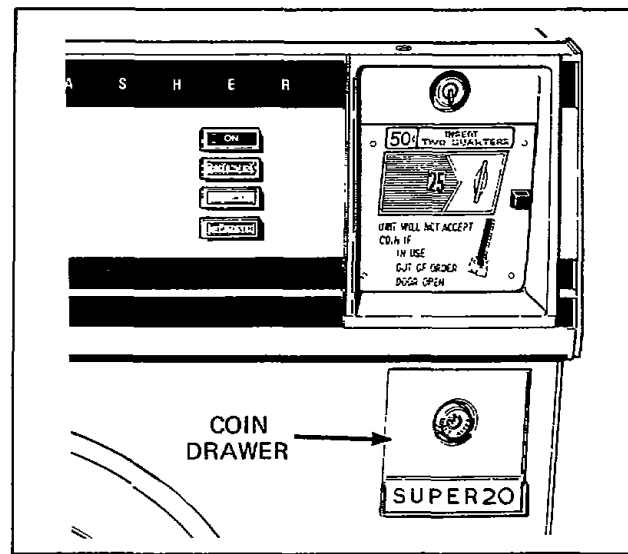

Figure 12
- c. Unlock and remove coin drawer, *Figure 12*.